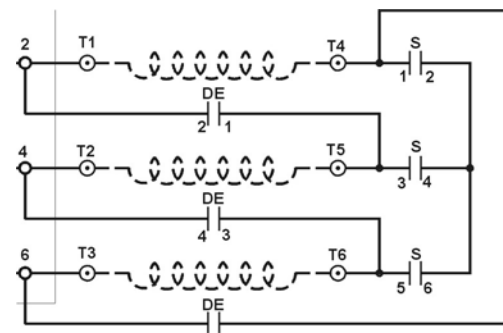

Figure 1-10
- The first is for the generator A/C motor, that consists of current conductors wired from the controller starter relays to the A/C motor windings. [See Figure 1-10.]